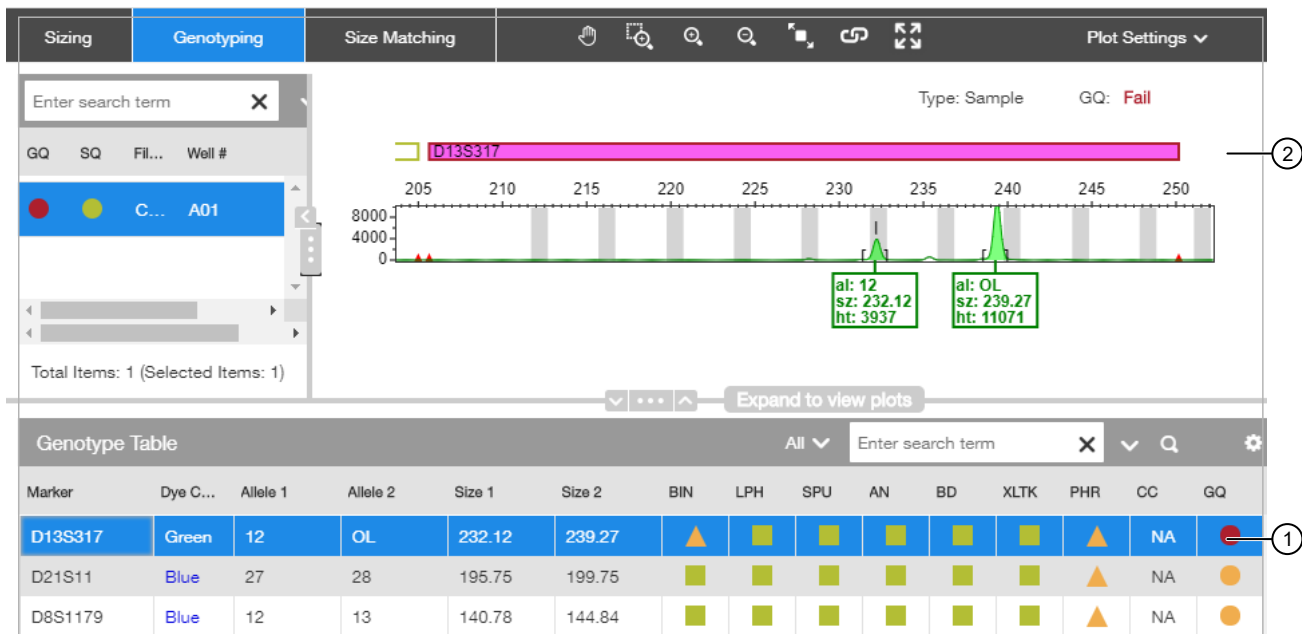

Figure 11 Example 1
- Figure 11 shows a ● GQ result that is caused by an off-ladder allele (OL peak label and BIN PQV).